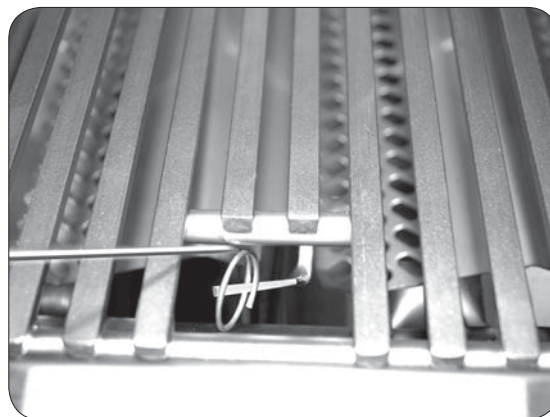

Fig. 23-2 - Manual lighting
**CAUTION:** Always wait five (5) minutes for gas to clear after any unsuccessful lighting attempt.
2. Insert either a burning long-barrel butane lighter, a burning long-stem match, or a burning match held by a wire extension holder through the cooking grid opening to the top of the burner (Fig. 23-2).
4. If the burner does not light within five (5) seconds of turning the control knob, **immediately depress the knob and turn the valve to OFF**. **WAIT FIVE (5) MINUTES** before repeating steps 2 through 4 of the **MANUAL LIGHTING** instructions.